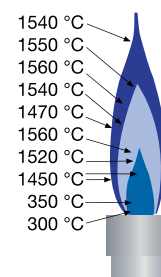

Figure 2.
2. Using tongs, hold a thin piece of copper or platinum wire and slowly move it up and down in the flame. Note the changes in the glowing of the wire as it passes through different regions of the flame. The wire should glow the brightest in the hottest region of the flame (see Figure 2).
Bunsen burners (named after Robert Bunsen, 1811–1899) were designed to generate a combustible gas–air mixture that produces an efficient, hot flame. A properly adjusted burner flame should have three distinct cones: an outer violet oxidizing flame and an inner blue reducing flame with a cone of unburned gas. The tip of the inner blue cone is the hottest part of the flame—reaching 1500 °C. The cool region inside the innermost blue cone may only be 300 °C (see Figure 2).